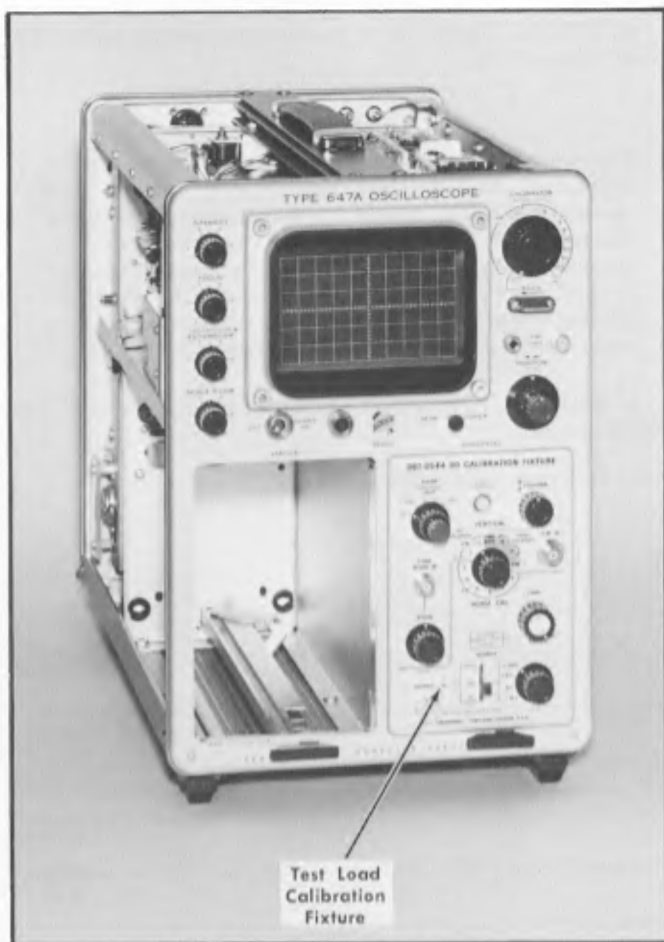

Fig. 6-14. Initial test equipment setup for step 16.
16. Adjust Horizontal Gain and Centering ①
- Test equipment setup is shown in Fig. 6-14.